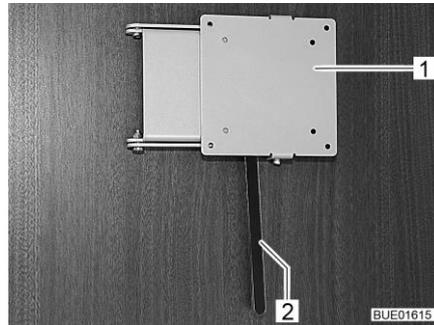

Fig. 108 Holder with release lever
- Push the release lever (Fig. 108,2) to the side and turn the holder (Fig. 108,1) with the flat screen to the desired position.
- Turn flat screen back until the holder (Fig. 108,1) engages in the lock.